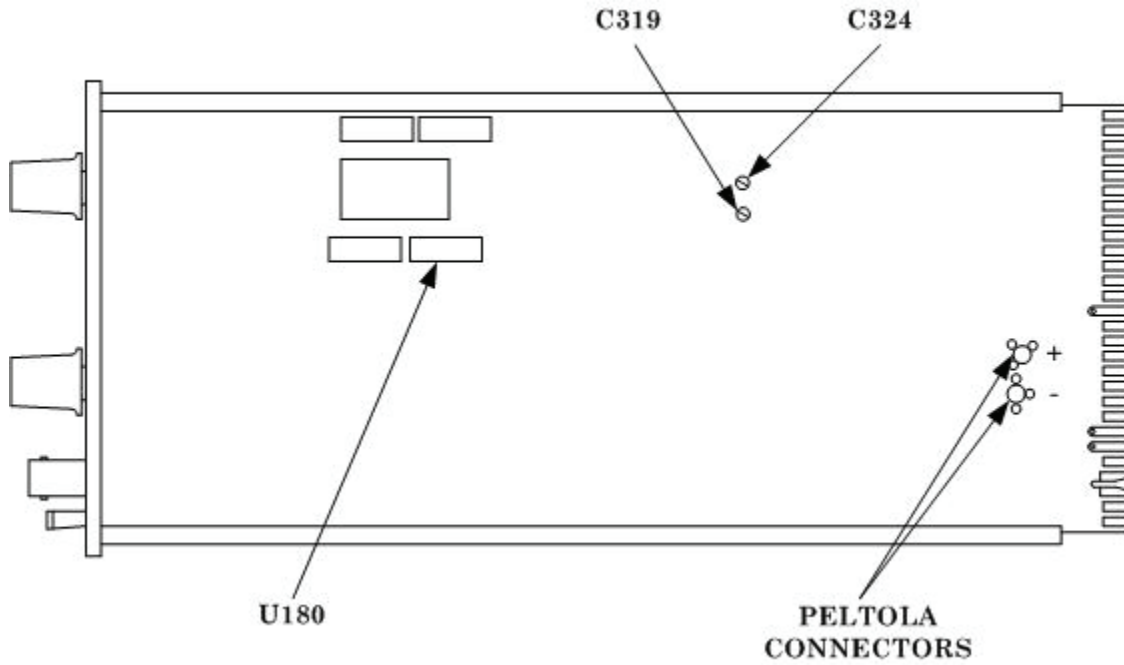

Figure 1. Calibration fixture - right side view.
(1) Set **TEST** switch to **VERT OR HORIZ GAIN** and press **REP RATE 1 kHz** pushbutton.
(2) Set oscilloscope **POWER** switch to off.
(3) Remove U180 (fig. 1) and insert stepper circuit switch in its place.
(9) Set oscilloscope **POWER** switch to off.
(10) Remove stepper circuit switch and reinstall U180 (fig. 1).
(4) Connect **TRIG OUT** to sampling unit **EXT INPUT**.
(5) Connect sampling unit **CH1** input to + PELTOLA CONNECTOR (fig. 1).
(6) Position sampling unit controls as listed in (a) through (j) below:
(7) Adjust sampling unit **TRIGGERING LEVEL** and **HOLD OFF** controls for a stable display on oscilloscope.
(8) Adjust sampling unit **DELAYED SWP SEC/DIV** switch and **CH1 VOLTS/DIV CAL** control for a convenient display. Adjust **DELAY TIME MULTI** (2nd DOT) and **DC OFFSET ±2 V** controls for a centered display on oscilloscope. If display has more than 0.2 division p-p (peak-to-peak) aberrations or rise time is greater than 800 ps (picoseconds), perform **b** (1) below.
(9) Move cable from + to - PELTOLA CONNECTOR (fig. 1).
(10) Repeat techniques of (7) and (8) above. If display has more than 0.2 division p-p aberrations or fall-time is greater than 800 ps, perform **b** (2) below.
(1) Adjust C324 (fig. 1) until aberrations are less than 0.2 division p-p and rise time is less than 800 ps (R).
(2) Adjust C319 (fig. 1) until aberrations are less than 0.2 division p-p and fall time is less than 800 ps (R).